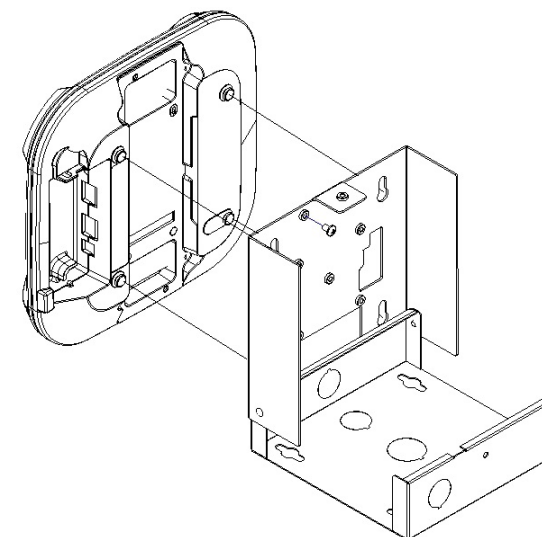

Figure 3 - Cisco Installation
Step 2c (**CISCO INSTALLATION**) – If the AIR-BRACKET-2 is not being used, place the Cisco access point's mounting feet into the keyhole slots and slide the access point towards the edge. Install the #8-32 screw into the nut located near the edge to secure the access point in place (Ref. Figure 3).